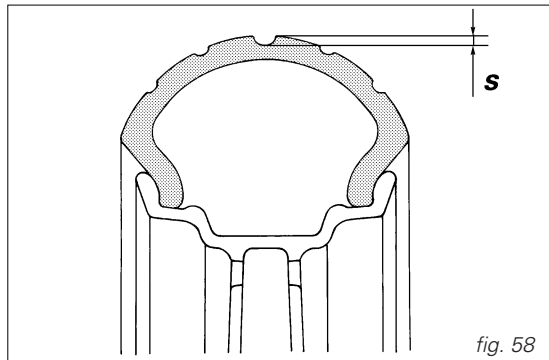

fig. 58
*Measure tread depth (S, fig. 58) at the point where tread is most worn down. It should not be less than 2 mm and anyway not below the legal limit.*